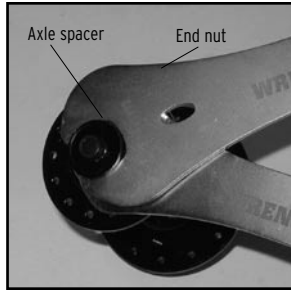

Fig. 2F
1. Hold the left side (non-drive) axle spacer with a 19mm cone wrench and loosen the end nut (Fig. 2F) with a 15mm cone wrench.